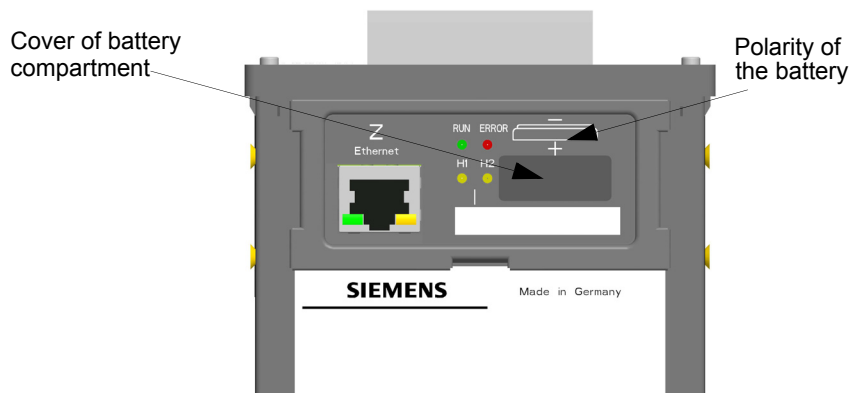

Fig. 5-1 Top side of the SENTRON T
- ◇ Insert the battery into the battery compartment with the polarity imprinted on the top side of the device (see Figure 5-1).